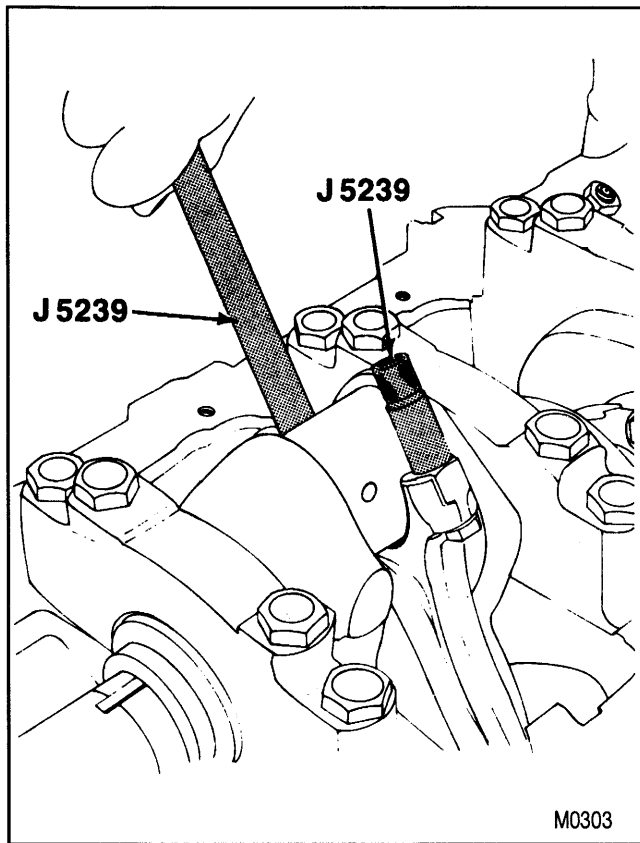
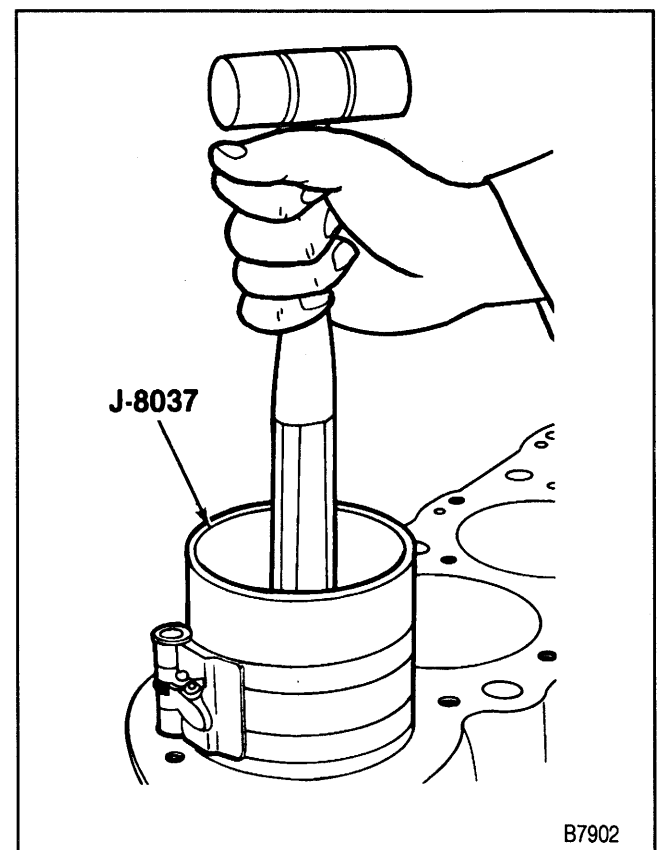

Figure 24—Replacing the Connecting Rod and Piston
Figure 27—Installing the Piston
↔ Remove or Disconnect (Figure 24)
- Attach J 5239 to the connecting rod bolts (figure 24).
Install or Connect (Figures 24 through 29)
- Without disturbing the ring end gap location, install J 8037 over the piston (figure 27).
- Place the piston in its matching bore. Using light blows with a hammer handle, tap the piston down into its bore (figure 27). At the same time, from beneath the vehicle, guide the connecting rod to the crankpin with J 5239 (figure 24). Hold the ring compressor against the block until all rings have entered the cylinder bore.